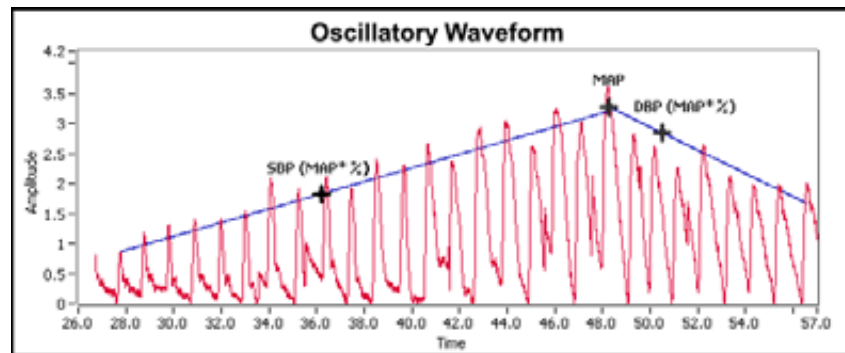

Figure 1: Oscillatory Waveform of Blood Pressure Pulses
These pressure pulses form an oscillating waveform and the peak-to-peak amplitudes of this waveform create a bell shaped "envelope" (Figure 1). The systolic blood pressure (SBP) is
- 1) Did the pulse waves displayed on the NIBP Analyzer window create a bell-shaped “envelope” similar to the graph in Figure 1?